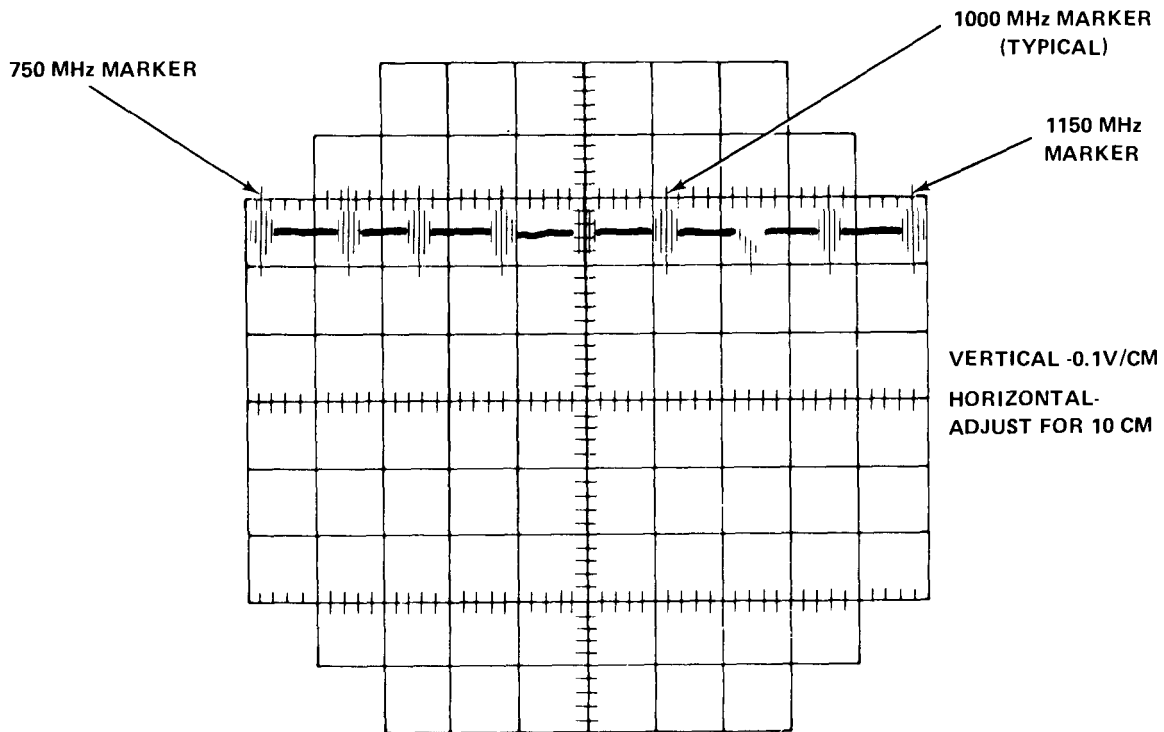

Figure 4-15. Oscilloscope Display (Sweep Drive Circuit)
- s. Alternately adjust R145 and R144 CW until 750 MHz marker and 1150 MHz marker are positioned at the extreme ends of the horizontal trace as shown in figure 4-15.